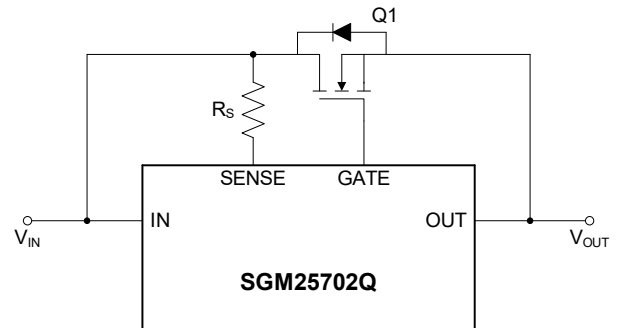

Figure 8. Setting the V_{DS} Threshold
- ◆ R_{DSON} is the resistive drop of the pass element Q1 in Figure 8
As described in the section Over-Current Protection and Figure 8, the appropriate SENSE pin resistor R_S can be selected based on the desired over-current threshold and $R_{DS(ON)}$ of the external N-MOSFET.